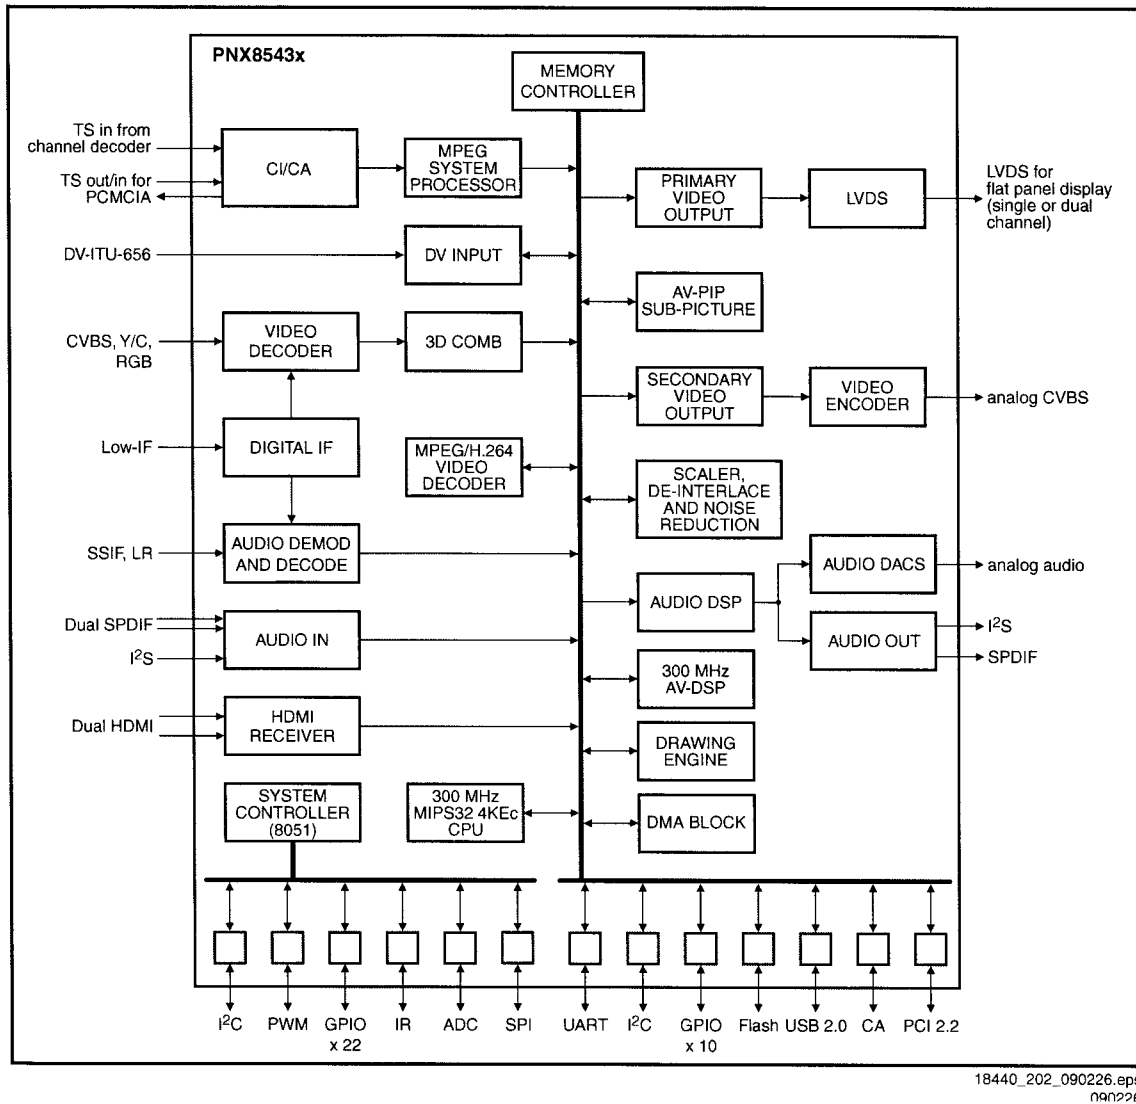

Figure 7-7 PNX8543 functional diagram
- For a functional diagram of the PNX8543, refer to Figure 7-7.